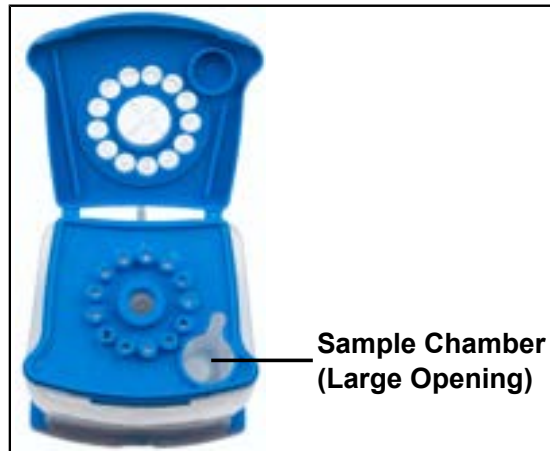

Figure 6. Xpert HCV Cartridge (Top View)
10. Place the pipette tip deep into the sample chamber of the cartridge (Figure 6).